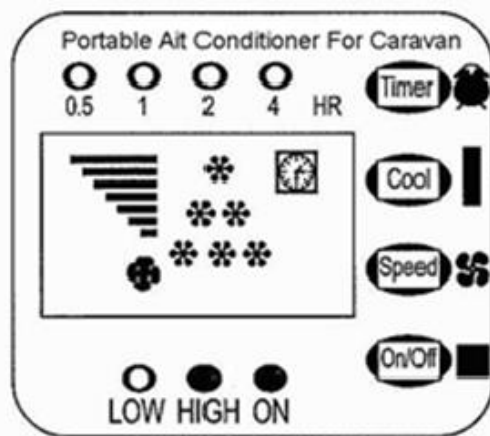

Fig . 6
Press again on COOL if you want to set the ambient temperature below 22°C. The screen will display six (6) stars to indicate that the air-conditioner is working continuously (Fig. 6).